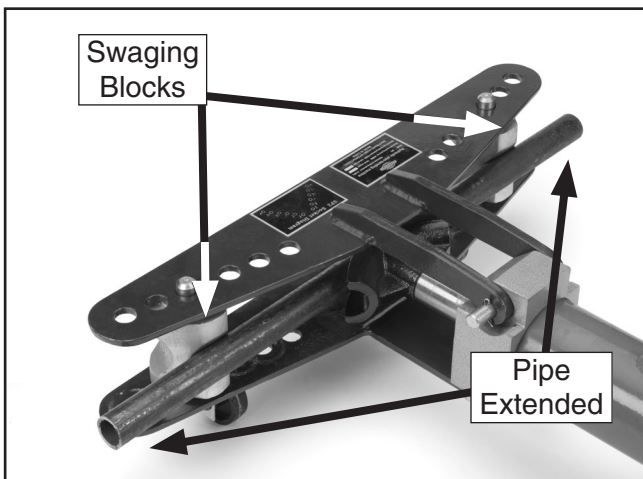

Figure 5. Pipe installed beyond swaging blocks to account for pipe shortening during the bend.
2. Turn the swaging blocks (**Figure 5**) in the direction of the bending die to the notch that best fits the diameters of the pipe.
3. To account for the pipe shortening during the bending process, make sure the pipe extends beyond the swaging blocks, as shown in **Figure 5**.